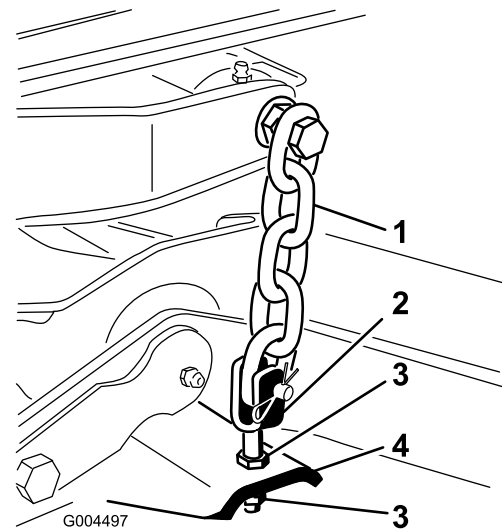

Figure 7
8. Adjust the jam nuts securing the mower yokes/chains to the mower until the cutting unit is level (Figure 7).
6. Adjust the jam nuts securing the rear mower yokes/chains (Figure 7) to raise the rear of the cutting unit so that the blade pitch is set to 8 to 11 mm (5/16 to 7/16 inch).